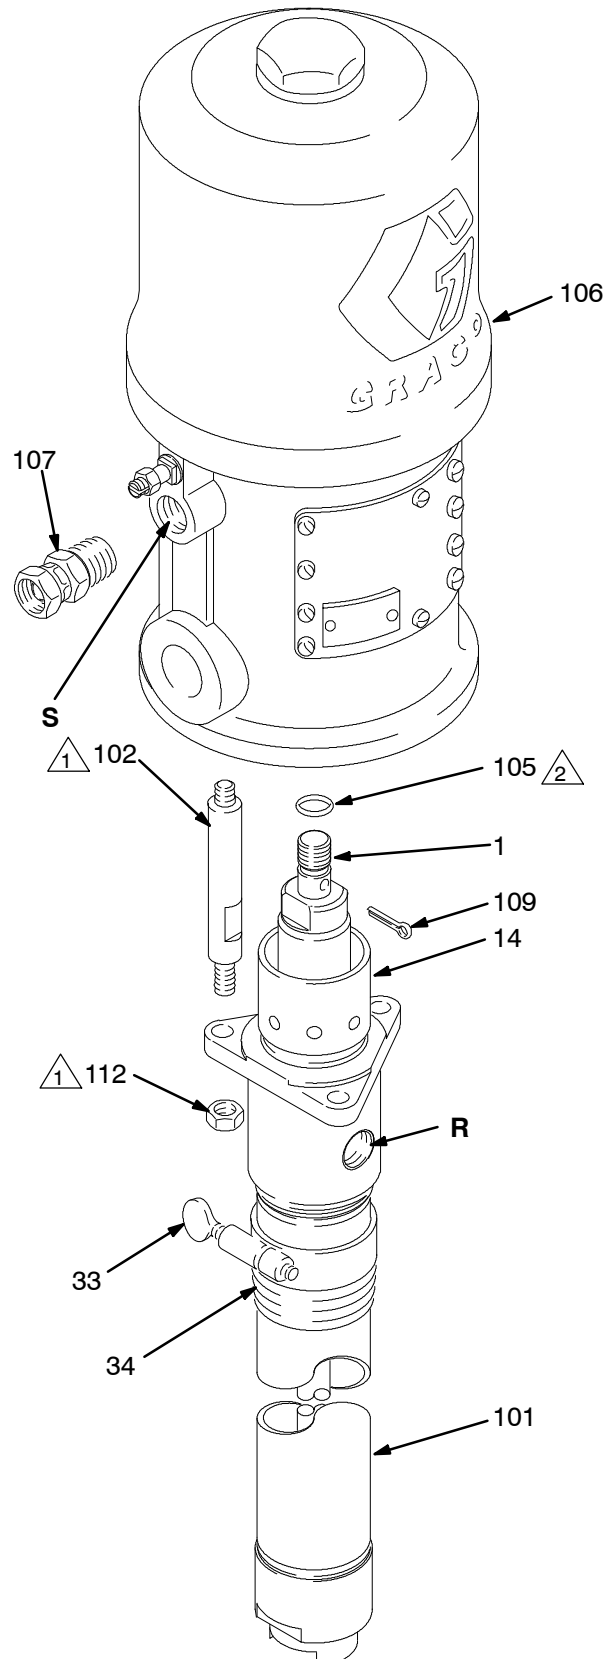

Fig. 3
2. Disconnect the air and fluid hoses. Remove the pump from its mounting. Note the relative position of the pump's fluid outlet (R) to the air motor's air inlet (S).
3. Unscrew the tie rod locknuts (112) from the tie rods (102). Remove the cotter pin (109). Unscrew the displacement rod (1) from the air motor (106). Carefully pull the displacement pump (101) away from the air motor (106). Inspect the o-ring (105). See Fig. 3.
1. Lubricate the o-ring (105) and check that it is in place on the displacement rod (1). Orient the pump's fluid outlet (R) to the air motor's air inlet (S) as was noted in step 2 under **Disconnecting the Displacement Pump**. Position the displacement pump (101) on the tie rods (102). Screw the locknuts (112) onto the tie rods (102) loosely. See Fig. 3.
2. Screw the displacement rod (1) into the shaft of the air motor (106) until the pin holes in the rod and shaft align. Install the cotter pin (109).
3. Mount the pump and reconnect all hoses. Reconnect the ground wire if it was disconnected during repair. Tighten the packing nut/wet-cup (14) so it is just snug - no tighter. Fill the wet-cup with Graco Throat Seal Liquid or compatible solvent.
4. Tighten the tie rod locknuts (112) evenly, and torque as shown in Fig. 3.
6. Check for fluid leakage at the packing nut/wet-cup (14). **Relieve the pressure** before tightening the packing nut/wet-cup.